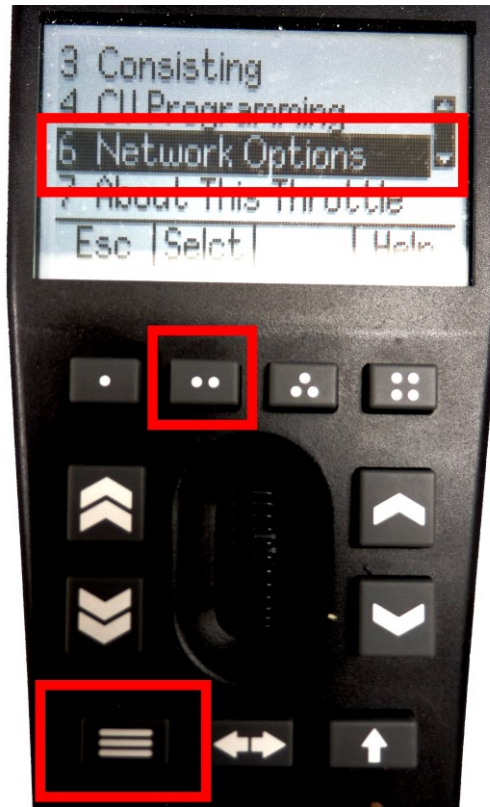

Figure 24 Selecting the Network Options menu on the UWT-100
- (2) Press the Menu button on your UWT, then use the up/down chevron buttons to choose Network Options, then press the Selct button [..] to open the Network menu as in Figure 24.